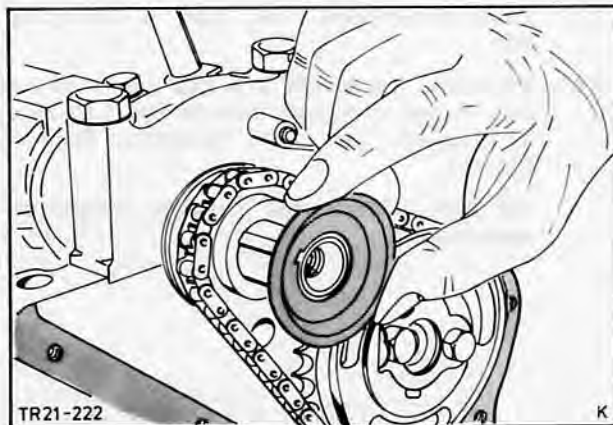

Fig. 37. Remove oil slinger
19. Remove water pump (3 bolts), Detach timing cover (4 bolts) and remove oil slinger from crankshaft, Fig. 37.